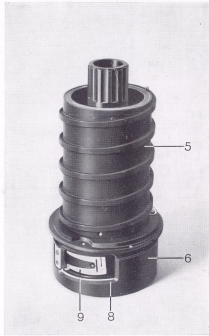

fig. 3
free and the internal cylinder can be screwed out upwards with respect to ring (6) as shown in figure 3. Looking at window (8) in figure 3, one can